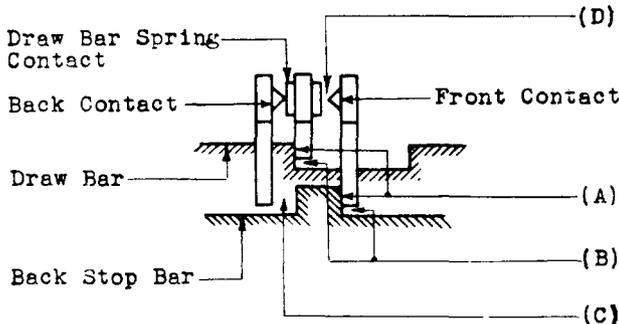

Fig. 3
(a) Fig. 3 (A) - The spring tangs shall engage vertically with the sides of the notches in the draw bar and back stop bar.
(b) Fig. 3 (B) - The spring tangs shall clear the bottoms of the notches in the draw bar and back stop bar. Gauge by eye.
2.07 Tang Clearance - Fig. 3 (C) - When the long contact springs are made with the short contact springs, the clearance between the tangs of the long contact springs and the sides of the notches in the back stop bar shall be
2.09 Contact Separation - Fig. 3 (D) - The contact separation between any pair of contacts normally open or between any pair of contacts that are opened when the switch is operated shall be